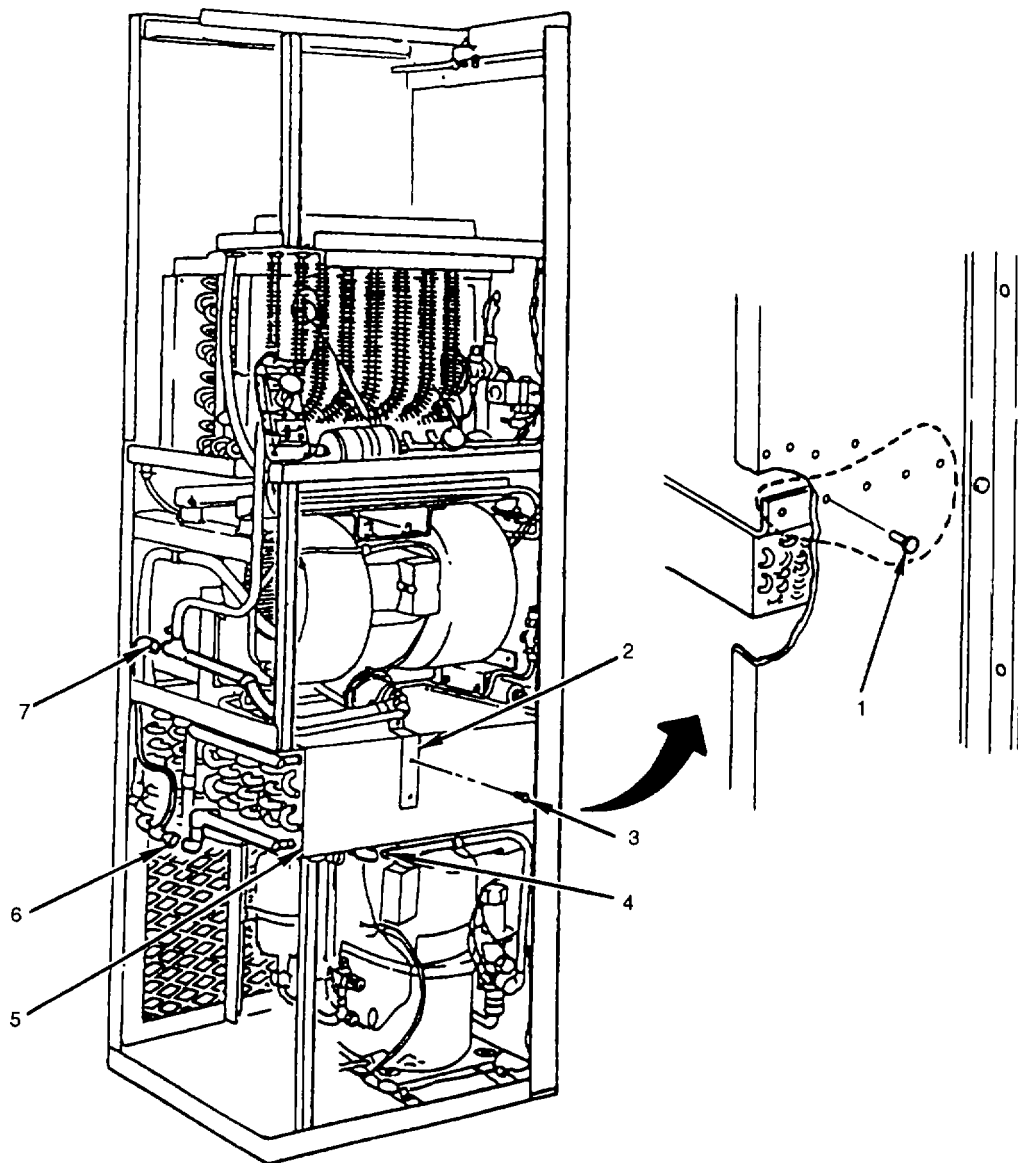

Figure 6-3. Condenser Coil
- a. Remove two screws (3) from liquid quench expansion valve bracket (2) (see fig 6-3).